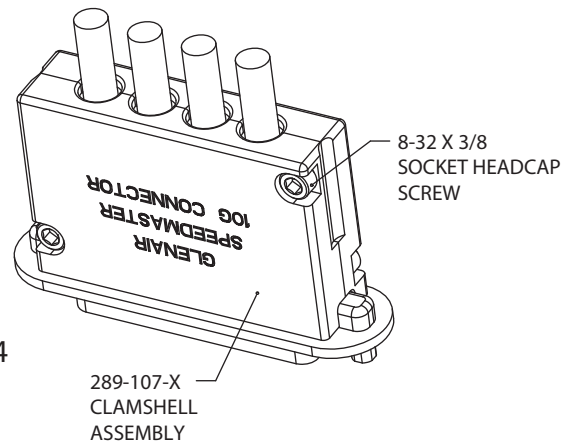

FIGURE 4
- D. Being sure to line up the alignment rib/ribway on each half of the clamshell, fasten the 2 halves together using the four 8-32 x 3/8 socket head cap screws. (Figure 4)